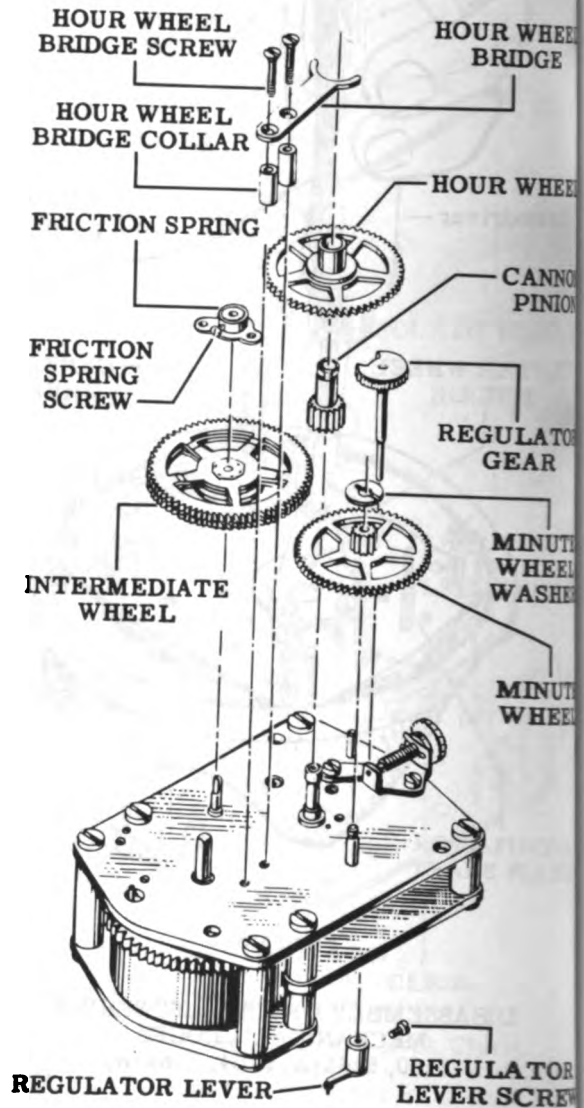

Figure 54—5160 Mechanical Clock Movement
- Turn the movement on its side with the regulating mechanism toward you. Loosen the regulator lever screw. If the regulator gear is damaged, pull out the regulator gear through the front plate and slide the regulator lever out from under the regulator. Refer to Figs. 54 and 55.